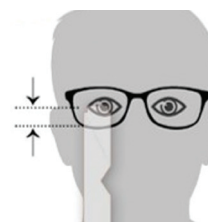

FIG. 18
**PAL fitting height measurement:** Use a millimeter ruler to measure the fitting height to measure from the height of the pupil to the deepest part of the eyewire groove (Fig. 18).